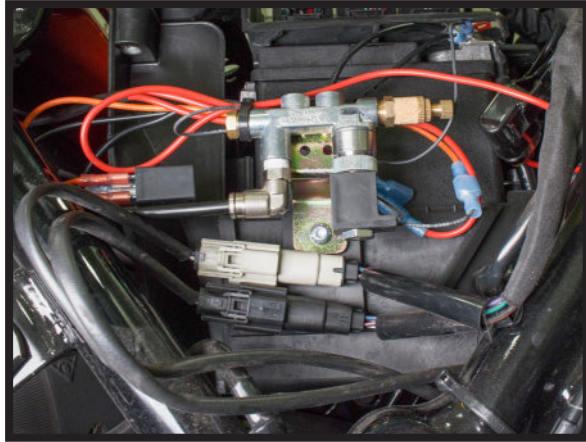

FIGURE 30
11. MOUNT THE INCLUDED AIR MANIFOLD UNDER THE RIGHT-SIDE BATTERY COVER. THE IMAGES BELOW SHOW SOME OPTIONS WITH THE INCLUDED MOUNTING HARDWARE. TRIM THE ¼" COMPRESSOR HOSE AND INSERT IT INTO THE PUSH-TO-CONNECT FITTING ON THE AIR MANIFOLD. SCREW THE 2 VOSS FITTINGS INTO THE MANIFOLD AND FOLLOWING THE SAME PROCEDURE AS IN STEP #9 ATTACH THE 4MM AIR LINES. (FIGURES 30, 31)